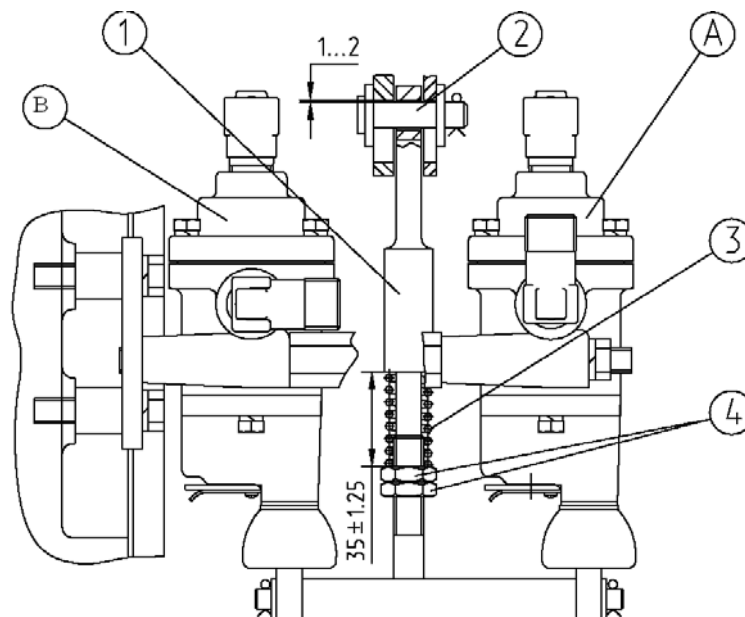

Figure 2.7 — Check and adjust drive of single-wire and two-wire brake valves of pneumatic system
Check the drive of the single-wire brake valve “A” (Figure 2.7) as follows:
4. Check availability of clearance gap of 1 to 2 mm between the finger 2 (Figure 2.7) and the upper edges of the grooves in the arms. If there is no gap, remove the cotter pin and remove the finger 2 and adjust the length of the arm by turning the end 1(Figure 2.7).
ATTENTION: WITH THE BRAKE VALVE “A” (FIGURE 2.7) AND ITS DRIVE CORRECTLY ADJUSTED, PRESSURE AS PER THE PRESSURE GAGE CONNECTED TO THE COUPLING HEAD WITH A BLACK CAP MUST DROP TO ZERO IN CASE OF A FULL TRAVEL OF THE INTERLOCKED BRAKE PEDALS OR WHEN THE PARK BRAKE IS FULLY ENGAGED.
Check the drive of the two-wire brake valve “B” (Figure 2.7) as follows:
ATTENTION: WITH THE BRAKE VALVE “B” (FIGURE 2.7) AND ITS DRIVE CORRECTLY ADJUSTED, PRESSURE AS PER THE PRESSURE GAGE CONNECTED TO THE COUPLING HEAD (WITH A YELLOW CAP) MUST BE EQUAL TO ZERO WHEN THE INTERLOCKED BRAKE PEDALS ARE NOT PRESSED AND WHEN THE PARK BRAKE IS FULLY DISENGAGED.